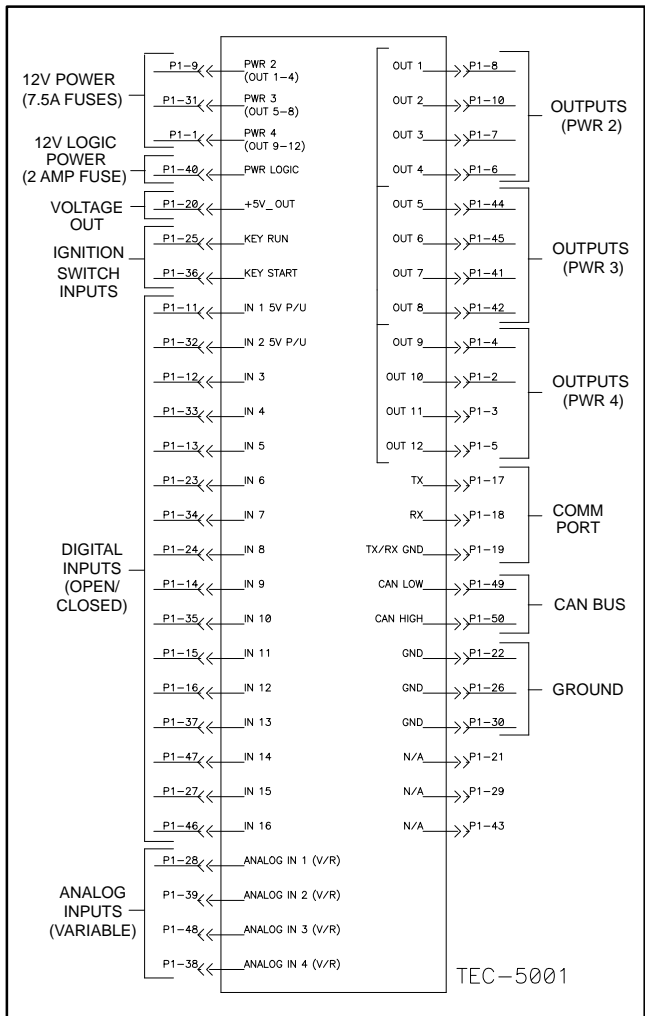
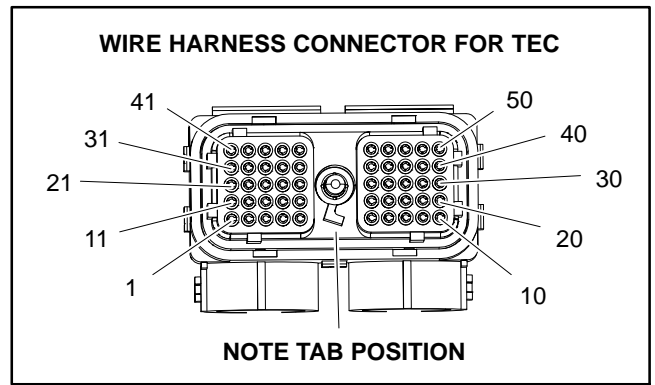

Figure 31
Figure 32
The connection terminal functions for the TEC are shown (Fig. 31). Note that electrical power for controller outputs is provided through three (3) connector terminals (PWR 2, PWR 3 and PWR 4) each protected with a 7.5 amp fuse. A fifty (50) pin wire harness connector attaches to the controller. The layout of the wire harness connector that plugs into the TEC is shown (Fig. 32).